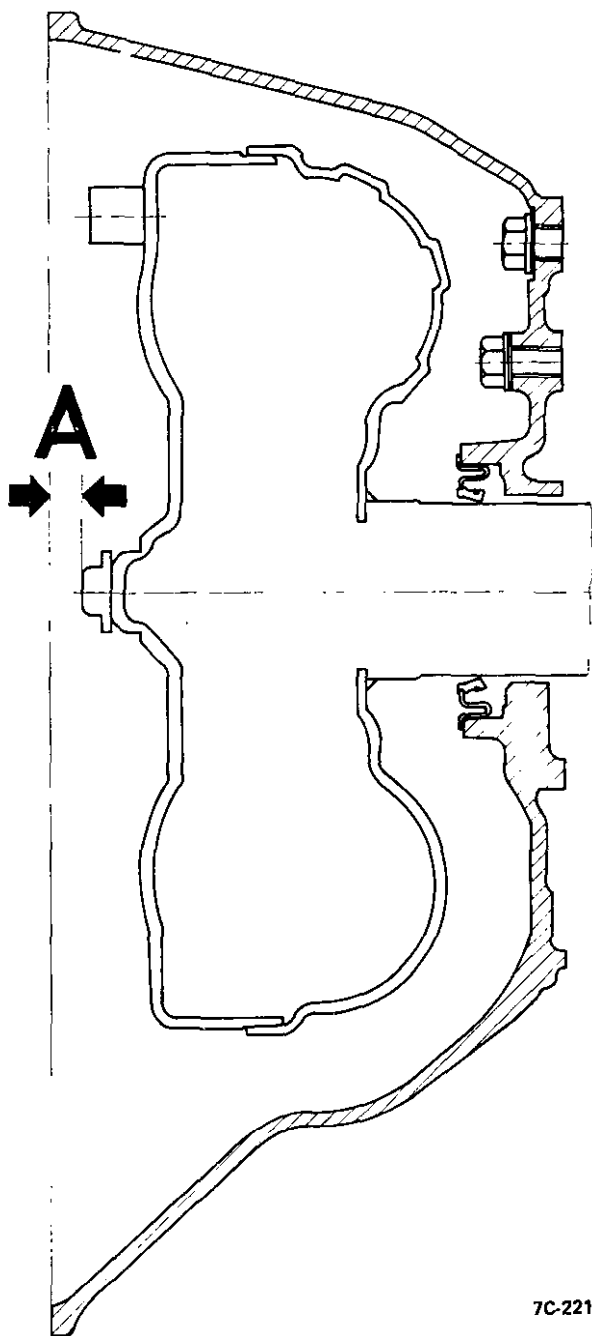

Figure 7C-232
3. Be sure that converter pump hub keyway is seated into oil pump drive lugs and the distance "A" is .20" to .28". See Figure 7C-232.